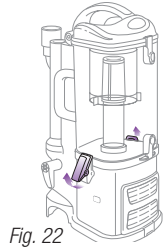

Fig. 22
- 1 Undo the latches on the sides of the dust cup by lifting them up and outwards to remove the dust cup from the motor base. (Fig. 22)